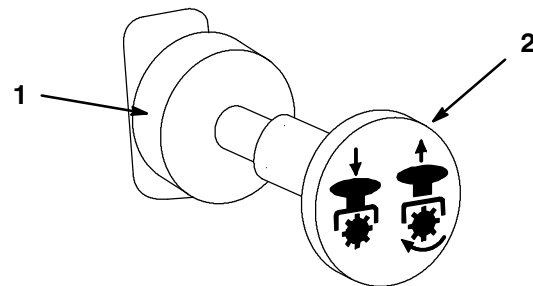

Figure 7
3. Pull out on the power take off (PTO) switch to engage (Fig. 7).
1. To disengage push the PTO switch to the “OFF” position (Fig. 7).